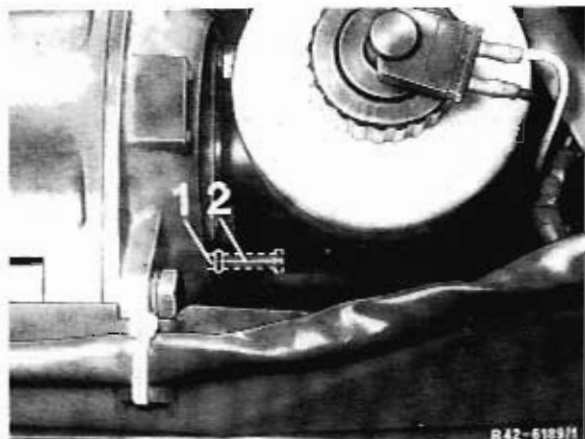

Fig. 2 Dual-circuit brake booster
**Note:** Vehicles to chassis end No. 306 946 are equipped with a control pin on the dual-circuit brake booster (Fig. 2).